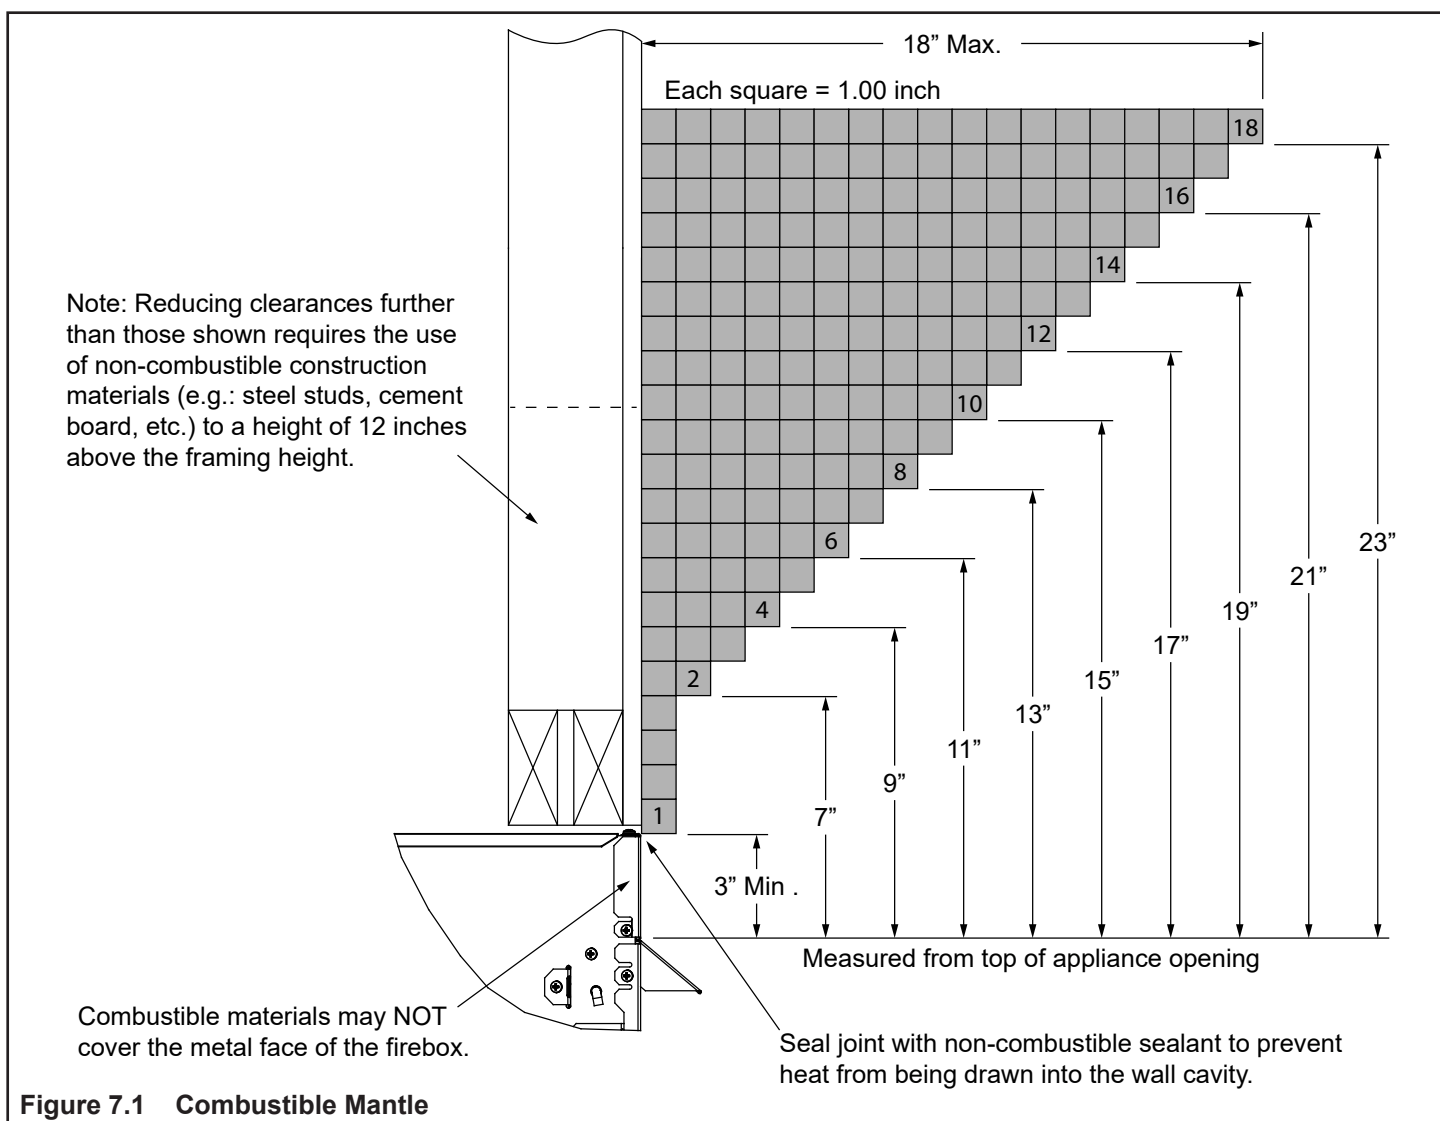

Figure 7.1 Combustible Mantle
- See Figures 7.1 through 7.4 for combustible and non-combustible mantle and mantle leg clearance requirements.